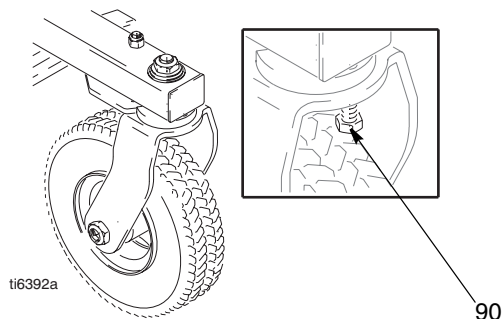

FIG. 1
7. Install screws (34) in drive housing. Torque evenly to note 3 value in Fig. 1.
9. Install front cover (52) with two screws (32)..
- ① Oil
- ② Pack with bearing grease 110293
- ③ Torque to 130 - 150 in-lb (14 - 16.9 N.m)